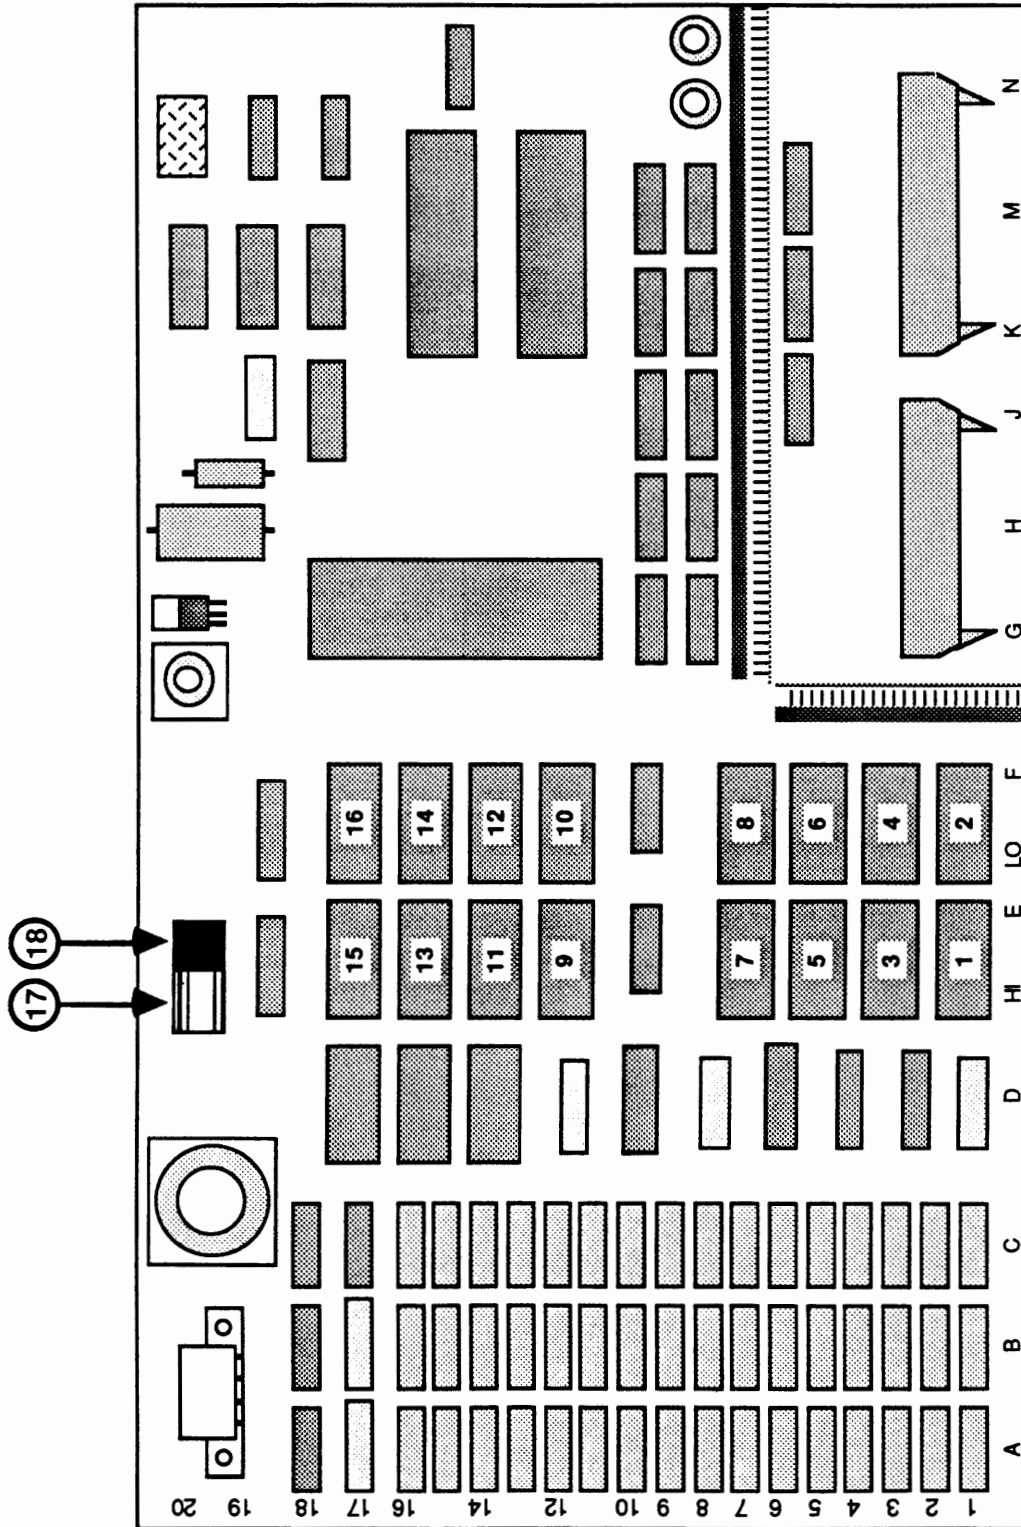

FIGURE 25
□ **LASERWRITER - LASERWRITER PLUS I/O BOARD (Figure 25)**